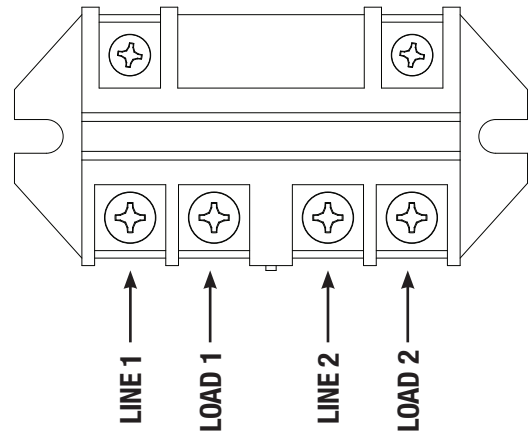
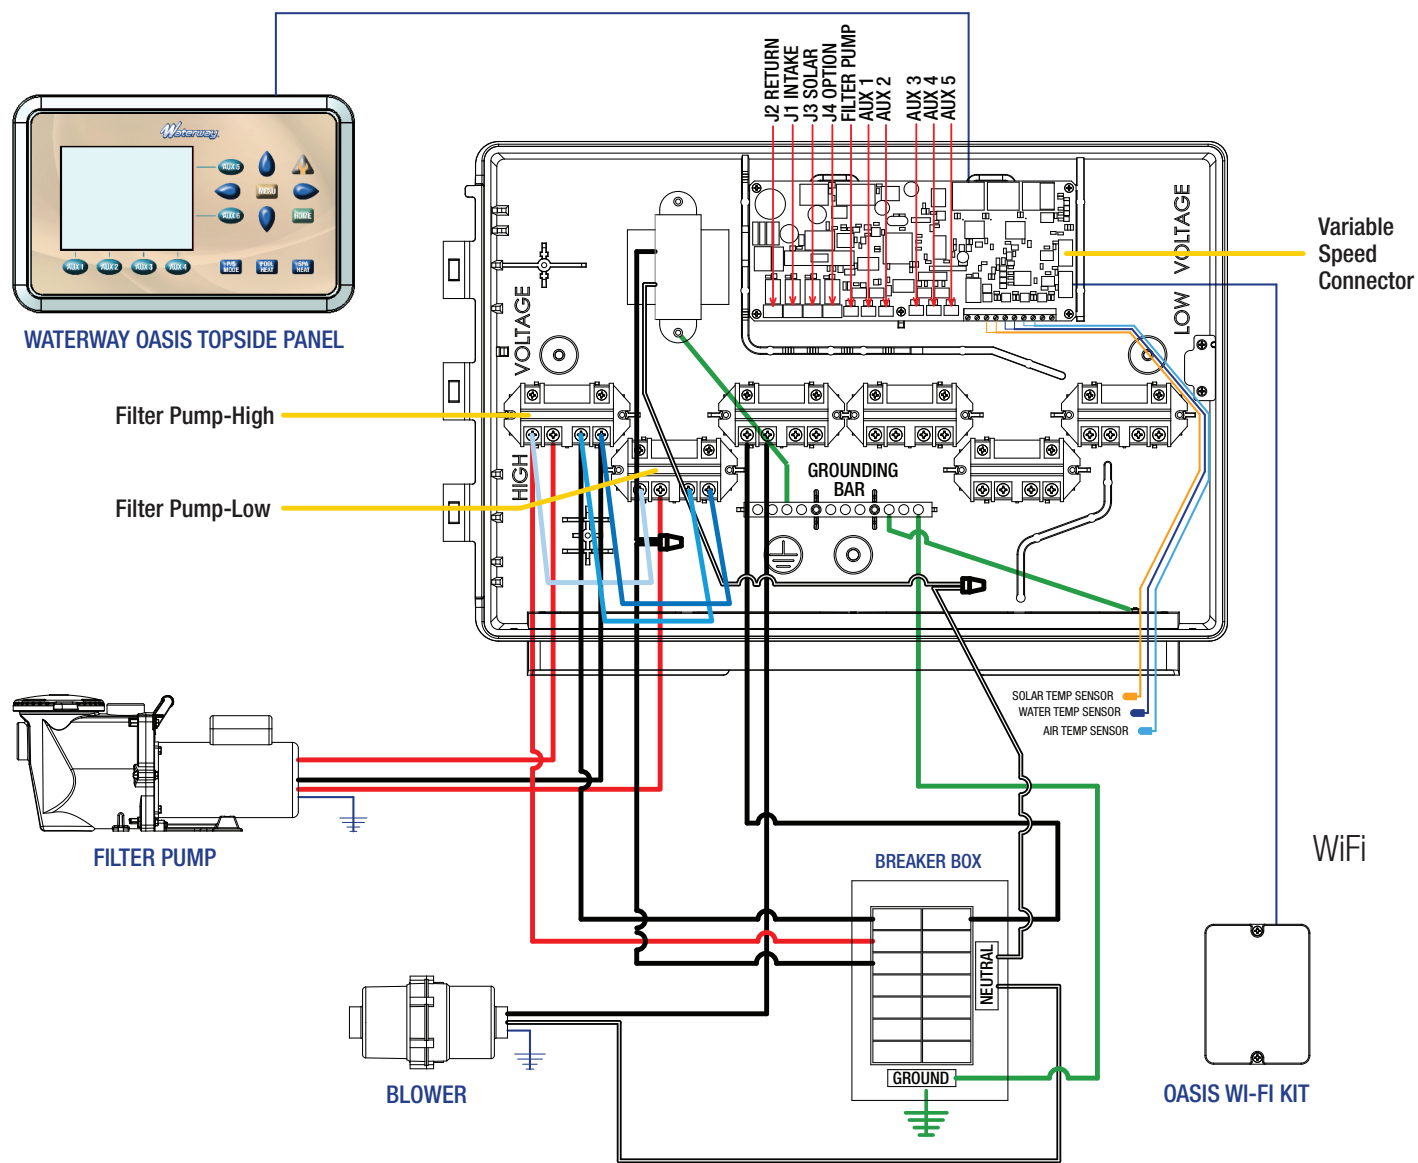

Figure 3. Filter Pump Relay
Figure 10.1. OASIS Controller Electrical Wiring Diagram for 2-Speed Pump
- Connect “Load” to Relay 1 Load 1 and Relay 1 Load 2 (see Figure 3).
- For 240V from power source connect “Lines” to Relay 1, Line 1 and Relay 1, Line 2 on. Aux 1 relay connect power source to line 1 (see Figure 3 and Figure 10.1 – page 11)